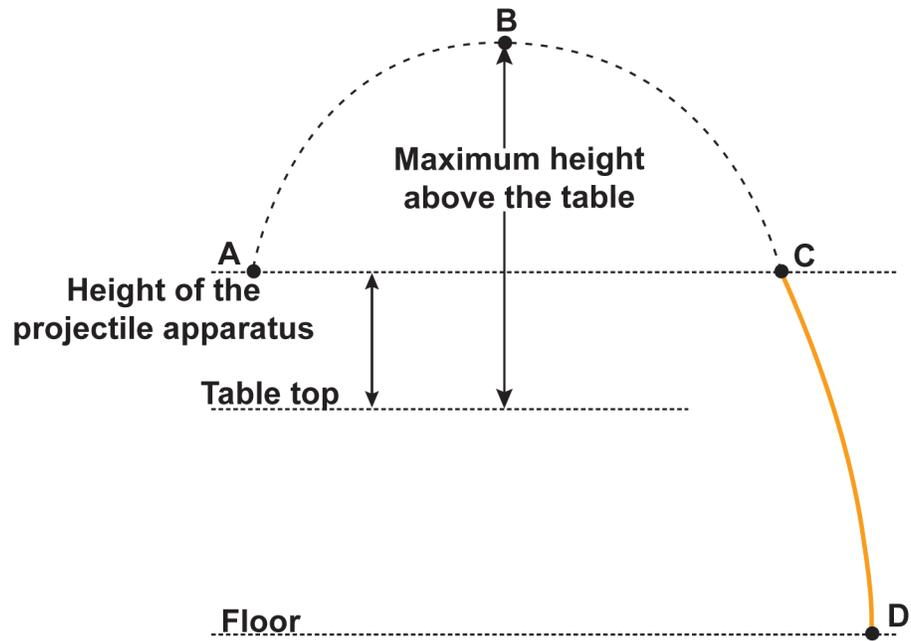

Figure 15
- 1. To work with the projectile path we need to divide the path into sections that identify the important points. See Figure 15.